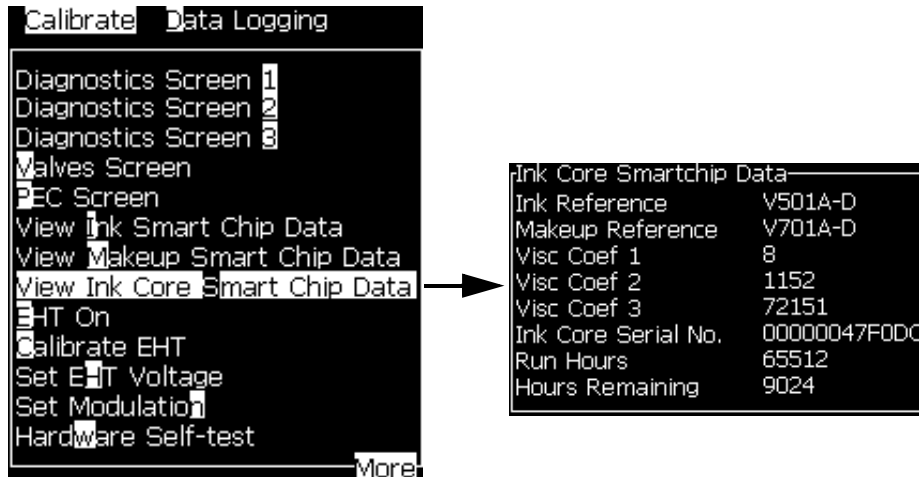

Figure 4-17: View Ink Core Smart Chip Data
- 1 Select *View Ink Core Smart Chip Data* from *Calibrate* menu (Figure 4-17).